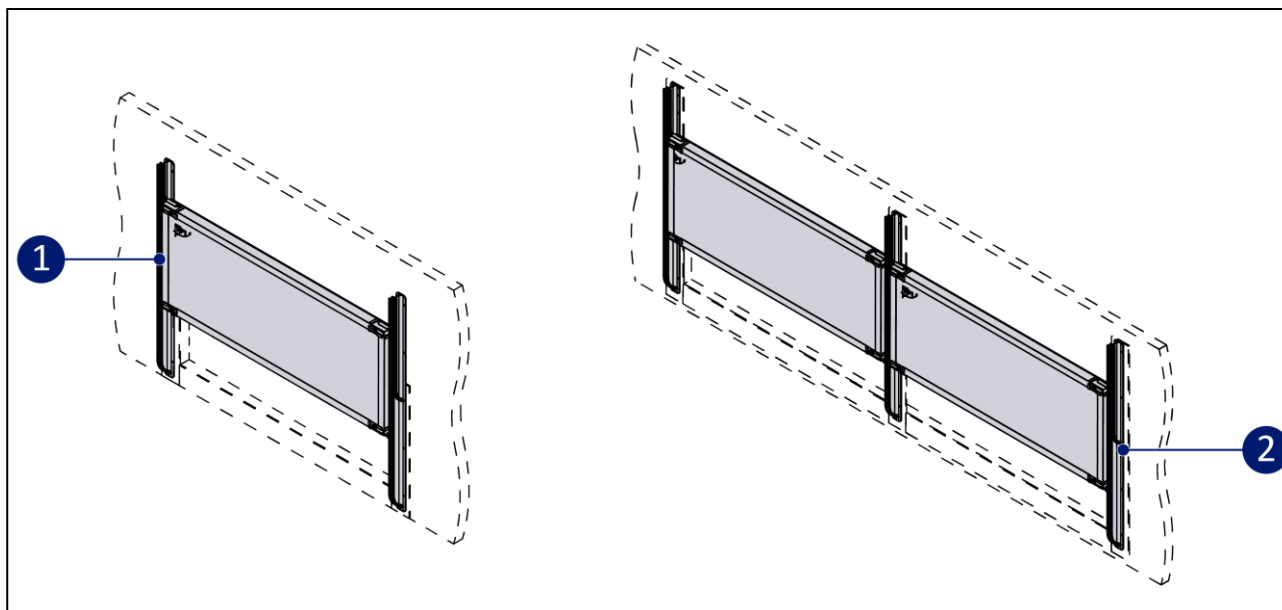

Figure 2-1: Different configurations of the Fenno.
- Fenno (single) (Figure 2-1, pos. 1);
- Fenno Linked (multiple) (Figure 2-1, pos. 2), consists of one Fenno door and one Fenno slider rail.